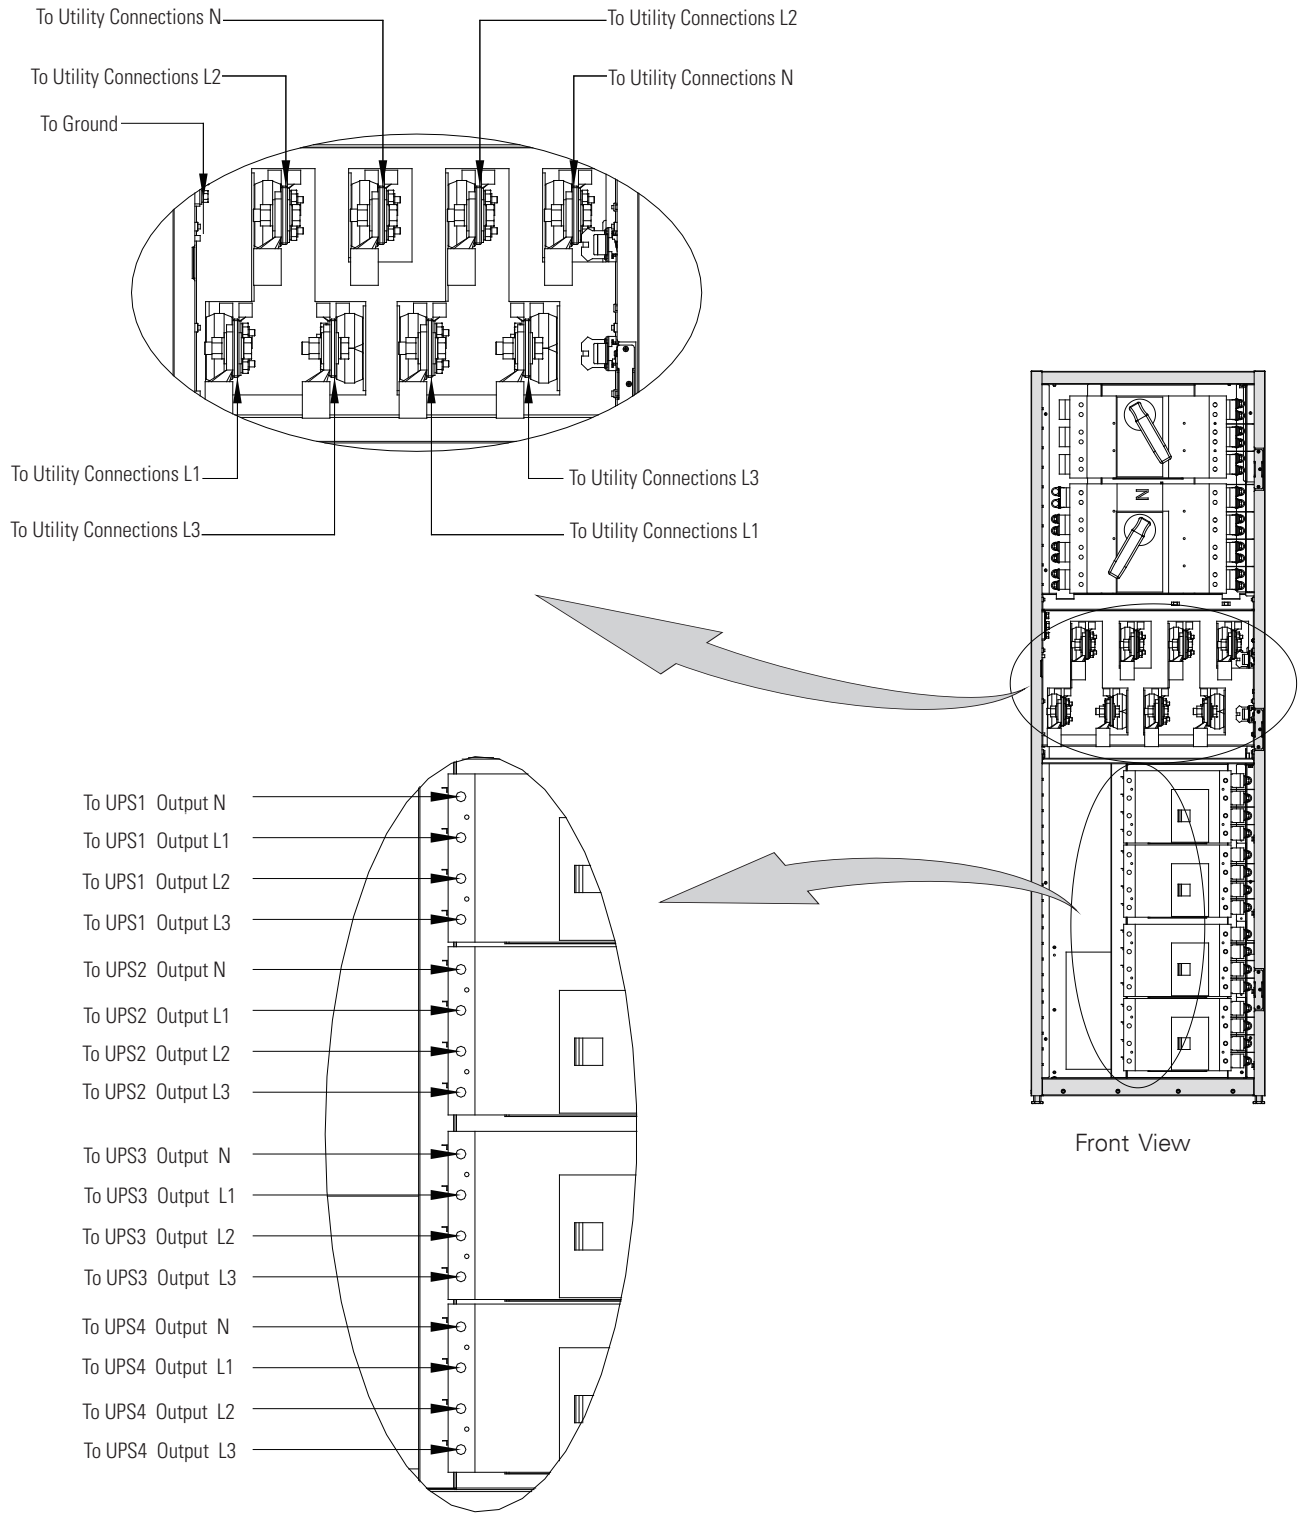

Figure 4-5. Power Terminal Locations
3. Ground the SPM according to local and/or national electrical wiring codes by routing and connecting the ground wire to the input ground lug. See Figure 4-5 for SPM terminal locations.
4. Route and connect the power cables(L1,L2,L3,N) from the utility source to the SPM phase and terminal blocks. See Figure 4-5 for wiring access information and terminal locations. See paragraph 3.2.2, Table 3-3 for wiring and termination requirements.
5. Route and Connect the power cables(L1,L2,L3,N) from the Load to the SPM phase and terminal blocks. See Figure 4-5 for wiring access information and terminal locations. See paragraph 3.2.2, Table 3-3 for wiring and termination requirements.
6. 5 Route and Connect the power cables(L1,L2,L3,N) from the UPS to the SPM phase terminal blocks. See Figure 4-5 for wiring access information and terminal locations. See paragraph 3.2.2, Table 3-3 for wiring and termination requirements.